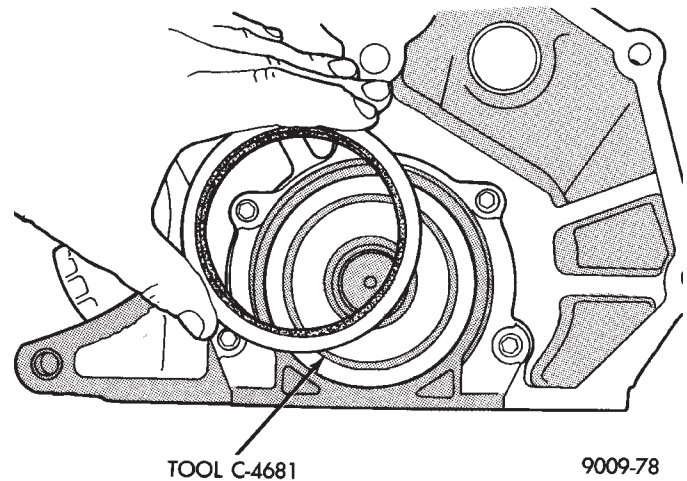

Fig. 9 Installing Rear Crankshaft Oil Seal
- (1) Place Special Seal Pilot Tool C-4681 on crankshaft (Fig. 9).
- (2) Lightly coat seal O.D. with Loctite Stud N' Bearing Mount or equivalent.
- (3) Place seal over Special Seal Pilot Tool C-4681 and tap in place with a plastic hammer.